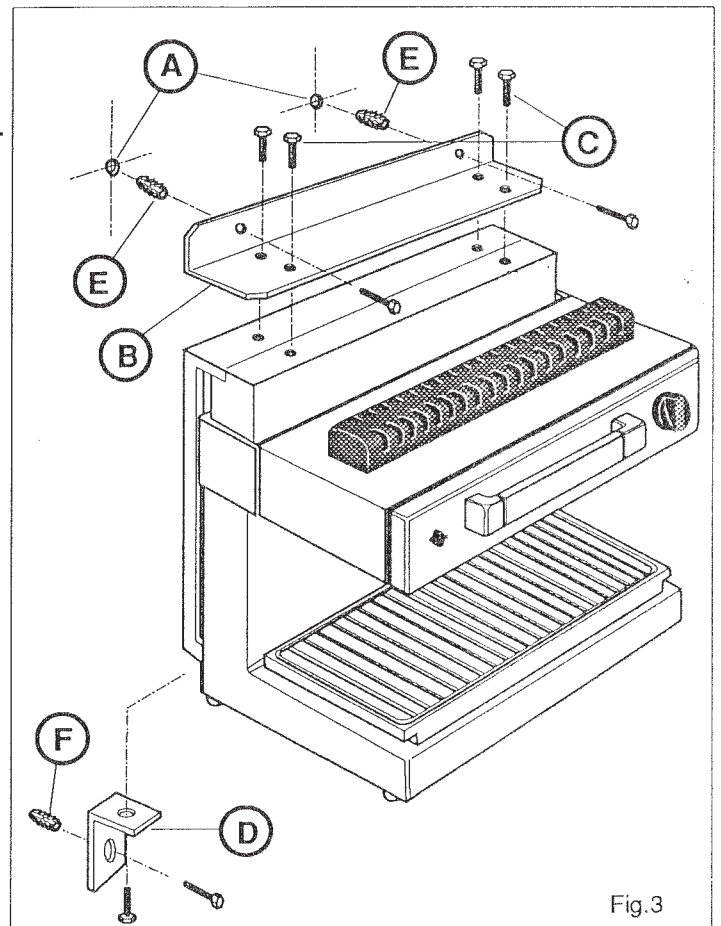

Fig.3
- provide to carry out holes **A** (fig. 3) on the wall by using a spirit level and bracket **B** as a template;